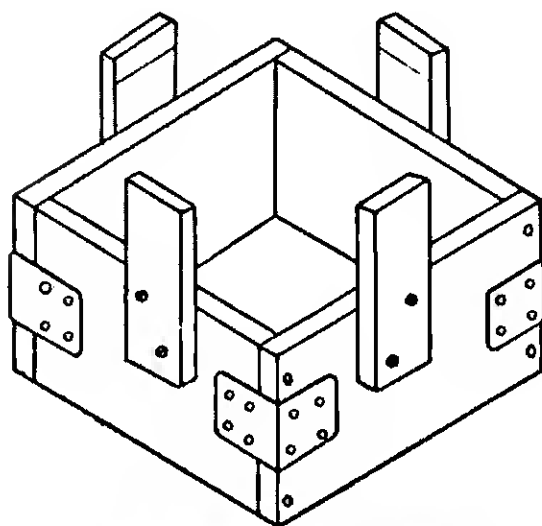
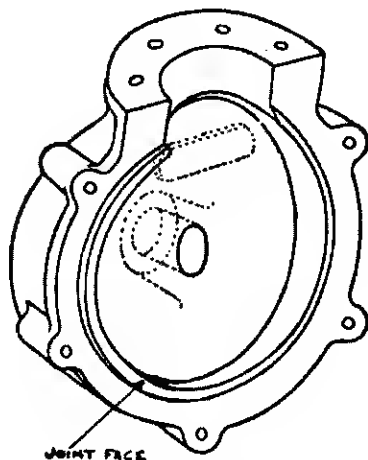
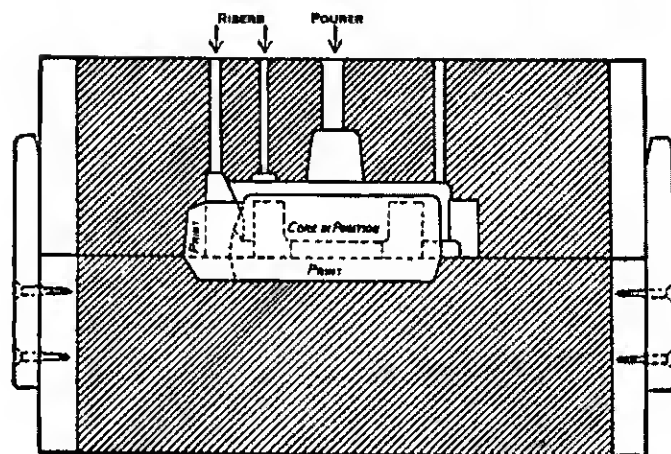

Fig. 3.—Bottom Half of Moulding Box
Fig. 8.—Half of Crank-case
Fig. 9.—Finished Mould for Half of Crank-case
**The Moulding Box.**—The bottom half of the moulding box is shown by Fig. 3, the other half being exactly the same, with the exception that the four locating ears are not required. The whole box is shown in section with a mould made ready for pouring by Fig. 9. The corner plates shown in Fig. 3 are necessary, because of the drying of the wood from which the box is made, whilst drying the moulds.
Fig. 8 shows an aluminium crank-case,
The mould for casting this piece is shown ready for pouring in Fig. 9, and although no illustrations are shown of pattern and core-box, yet an idea of their essentials can be formed, the pattern being solid of the same outline as Fig. 8, but with the addition of a print  $\frac{1}{8}$  in. high corresponding in outline to the hollow portions. The core-box makes a hollow cavity built up in wood of the same internal contours as the hollow portions of Fig. 8, with the additional room to make the counterpart of the print on the pattern. The print is so marked on Fig. 9, and simply acts as a locating piece for the core. Fig. 9 illustrates the remarks previously made with regard to pourer and risers and needs no further comment.